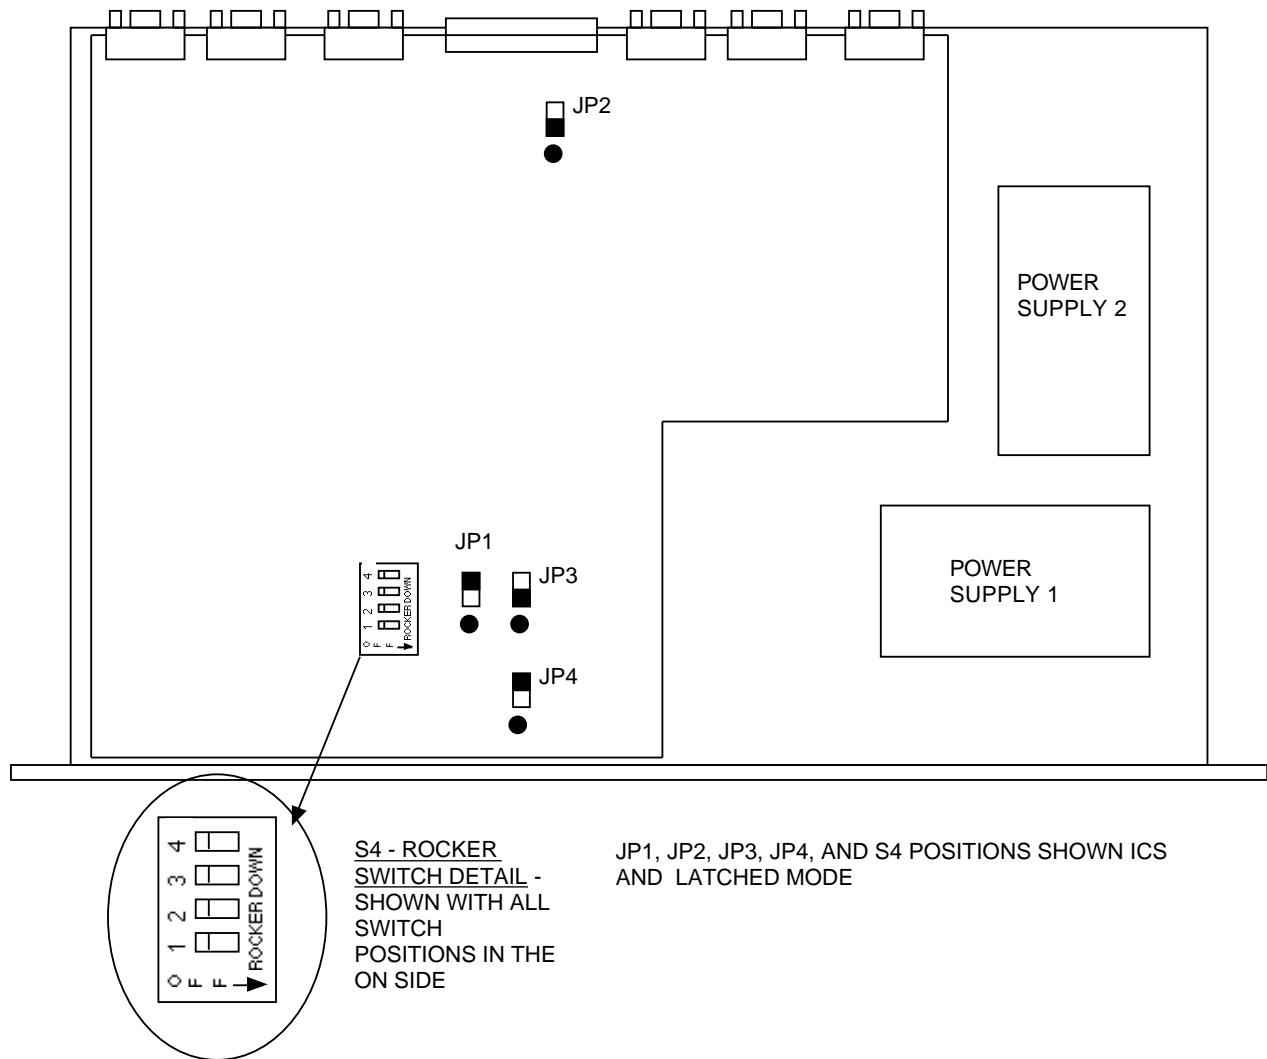

FIGURE 2.3 PCB SETTINGS PARTS LOCATIONS
- a. Set the on board controls as desired (Tables 2.2, 2.3, Figure 2.3).
2.5 Switch Mode Setup - The following gives the switch mode settings of the on board controls that can be changed in the field with JP1, JP2, JP3, JP4; S4. (Figure 2.3). All shown with external **alarm = ground**.